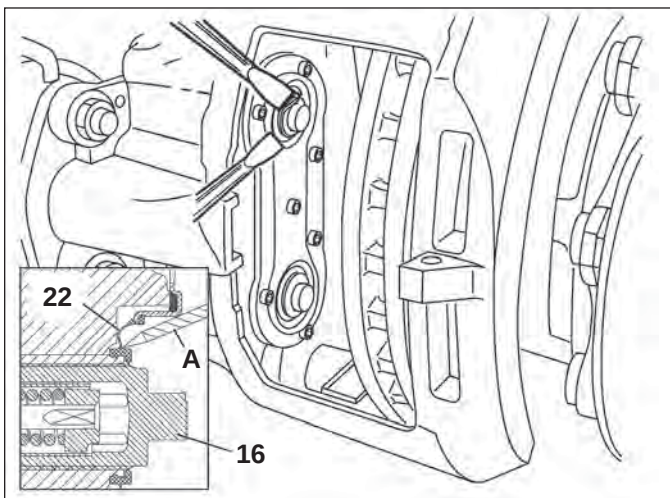

FIGURE 49 - INNER SEAL REMOVAL
5.5.8 See Figure 49. Carefully remove the inner seal using one or two flat-blade screwdrivers as shown. Caution: Do not insert the screwdrivers so far that they come into contact with the threaded tubes. Damage to the threaded tubes would require that the brake be replaced.